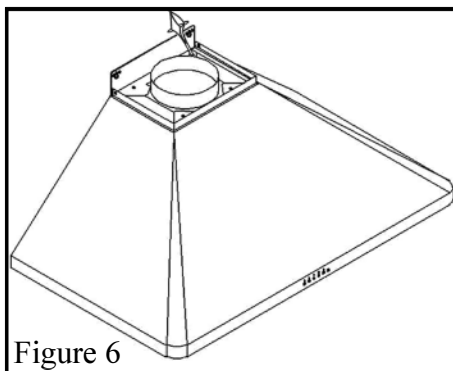

Figure 6
7. Connect the range hood to a designated standard outlet (please refer the product label for the suitable voltage of this unit) or cut off the plug and connect three wires (black, white and green) to house wires and cap with wire connectors. Connect according to colors (i.e. black to black, white to white, and green to green) as shown in Figure 6.